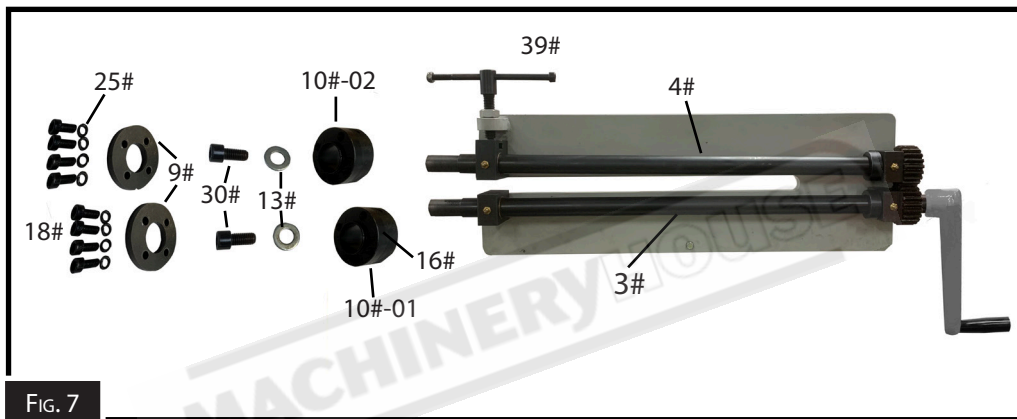

FIG. 7
1. Loosen Handle(39#), See Figure 7.
3. Using a Hex Key Wrench(27#), loosen the Screws(16#) that lock the Cutting Dies (10#-01,10#-02) onto the shafts. See Figure 7.
1. Using a hex key wrench, remove the eight Screws(18#) and Spring Washers(25#), securing the Cutting Plates (9#) to the Cutting Dies(10#-01, 10#-02). See Figure 7.